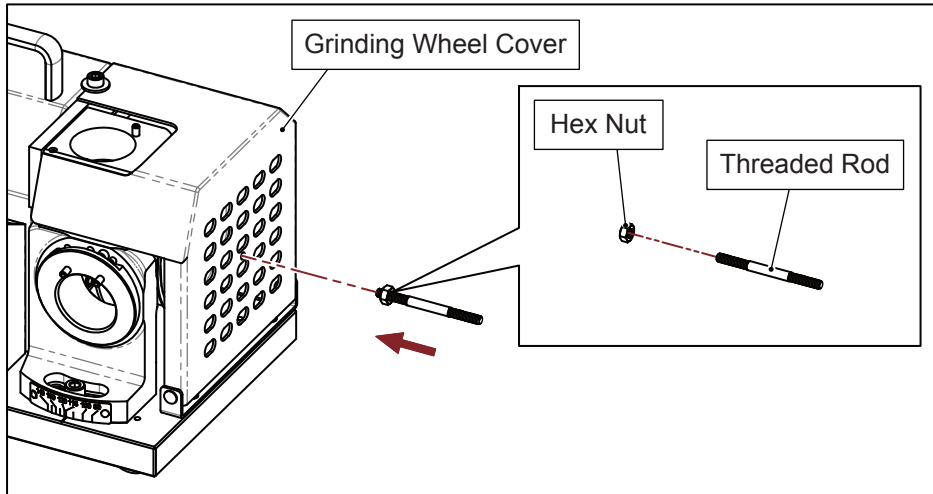

Fig. 3-1
- 1) Thread the hex nut onto the suitable position of the threaded rod, align the end of the threaded rod containing the hex nut to the tapped hole of grinding wheel cover, and turn the threaded rod clockwise to thread the rod into the grinding wheel cover and tighten lightly. (Fig. 3-1)